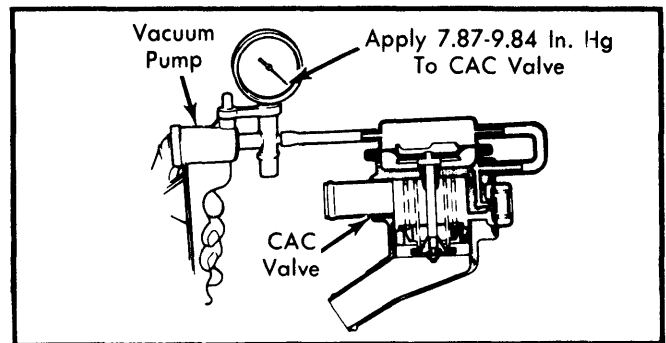

Fig. 3 Checking Combined Air Control Valve
3) Next, connect a hand operated vacuum pump to CAC valve as shown in Fig. 3. Apply 7.87-9.84 in. Hg (200-250 mm Hg) to valve. Increase engine speed to 3000 RPM and make sure no air leaks from CAC valve.